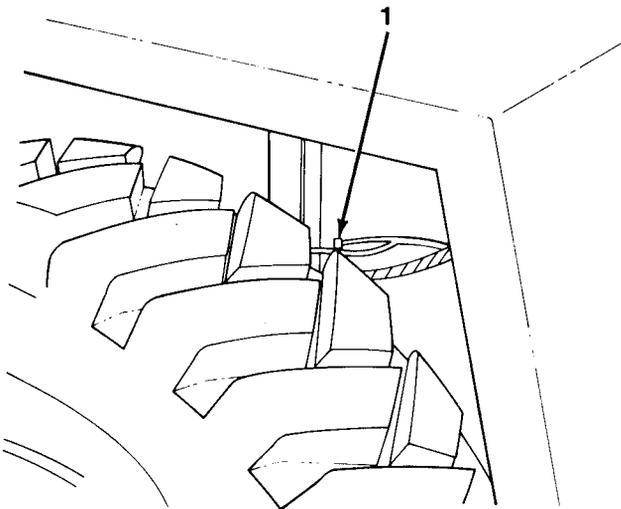

Figure 10-1
2. Install jam nut (15) on rod (13).
3. Install rod (13) into rod end (14).
4. Install rod (13) into the large diameter hole side of block (12).
5. Install block (12) with rod (13), two washers (11), capscrews (10), washers (9) and nuts (8).
6. Install rod end (14), washer (7) and jam nut (6).
7. Install switch (5), two sockethead capscrews (2), washers (4) and nuts (3).
8. Connect cam switch electrical lead (1, Figure 10-1).